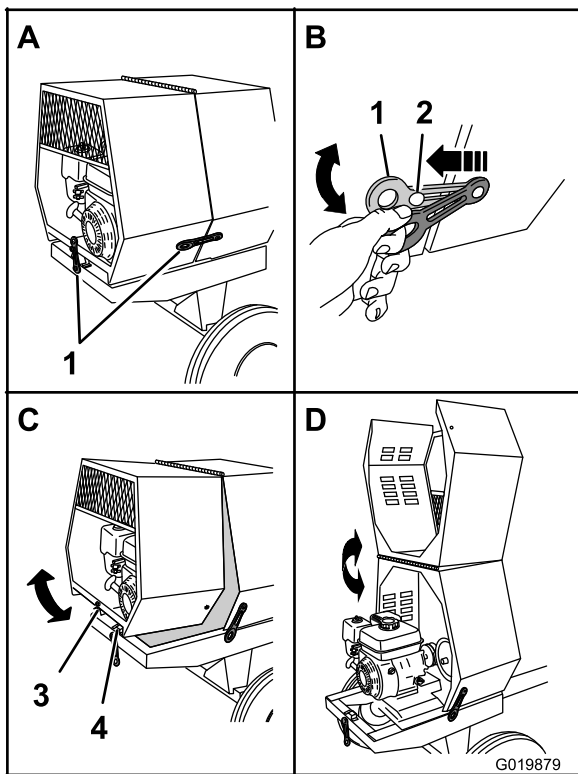

Figure 32
1. At the side of the machine where the front cowl and rear cowl meet, grasp the ring of the latch and pull it off from the latch anchor on the rear cowl (Figure 32).
3. At the back of the machine where the rear cowl meets the frame of the machine, grasp the ring of the latch and pull it off from the latch anchor on the cowl (Figure 32).
4. Rotate the rear cowl up and forward until it is fully positioned on top of the front cowl (Figure 32).
1. Rotate the rear cowl rearward and down until the receiver at the bottom center of the cowl is aligned with the V-fitting and flush on the frame of the machine (Figure 32).
4. Repeat step 3 on the opposite side of the machine (Figure 32).